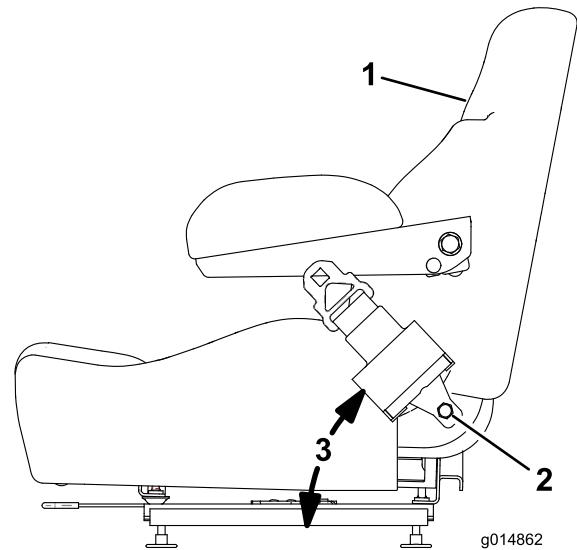

Figure 18
1. Check the angle of the seat belt compared to the bottom of the seat. The angle needs to be 47 degrees. See (Figure 18)